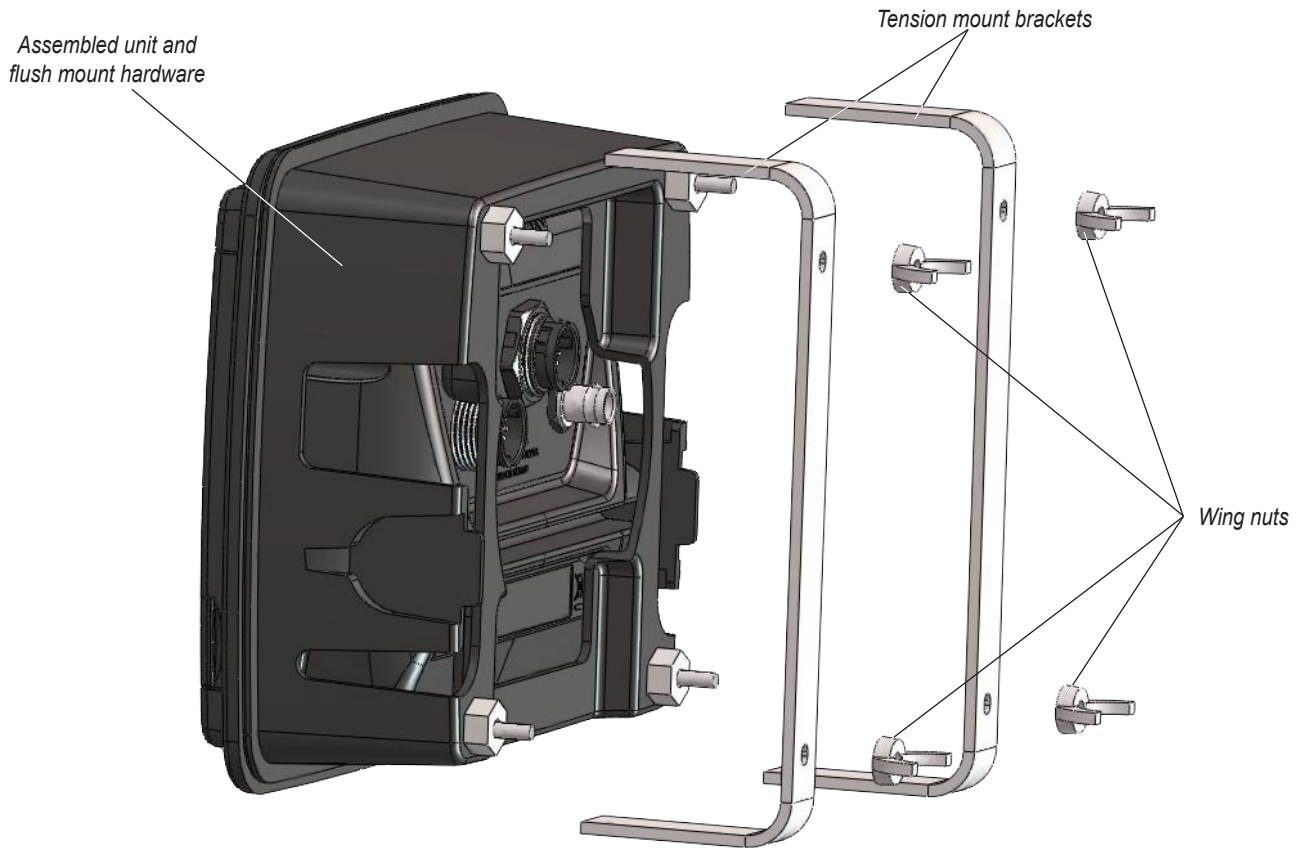

Figure 2
3. Install the unit in the opening (see Figure 2):